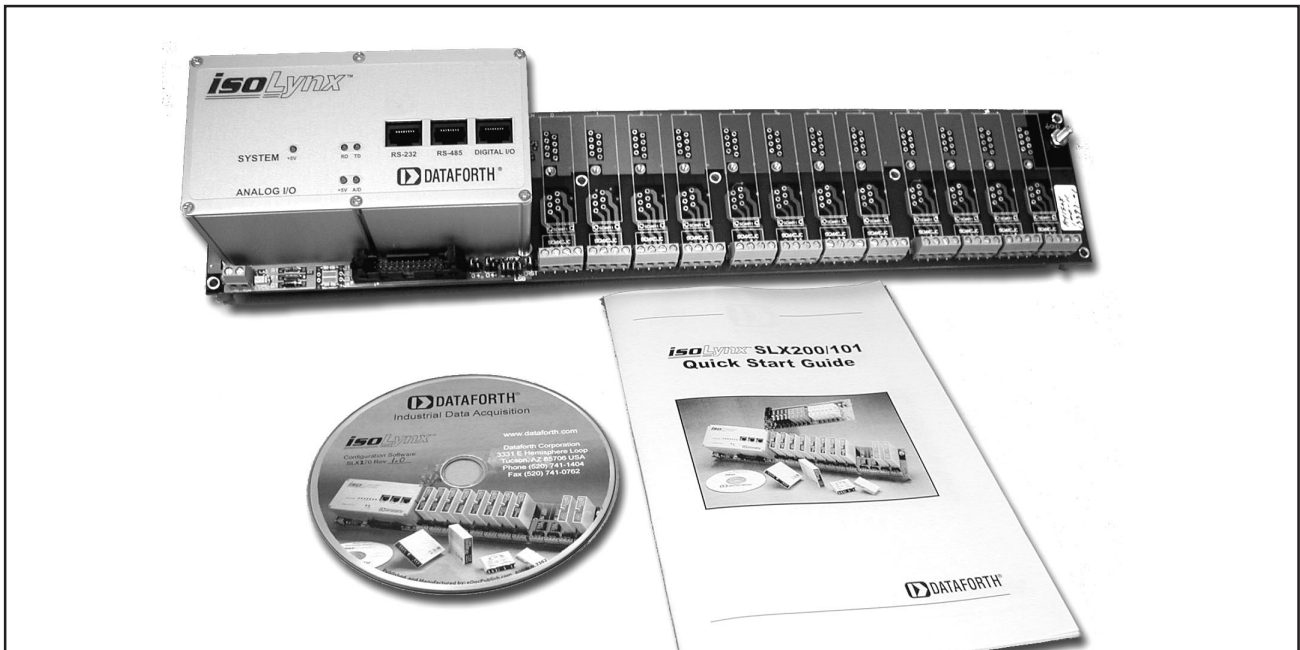

Figure 1.2-1
- isoLynx Controller (containing one SLX211 Processor Board, one I/O Signal Converter Board, and one optional Industrial Communication Board) mounted on the 12 channel Analog I/O Base Unit backpanel. Pictured in Figure 1.2-1 is a representative model of 8 models.